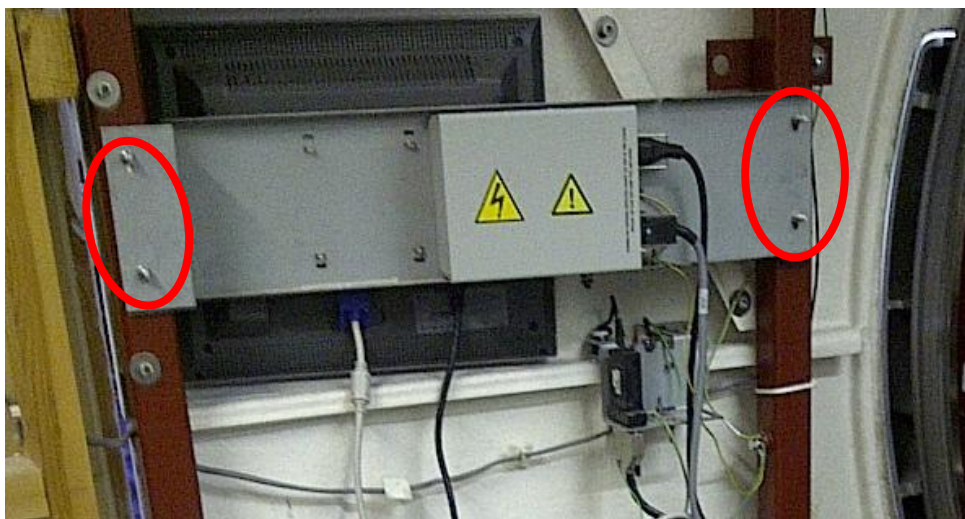

Figure 3: Bolts for the treatment room monitor
1. Hold the TRM and remove the bolts (see Figure 3). Be careful with the cables.